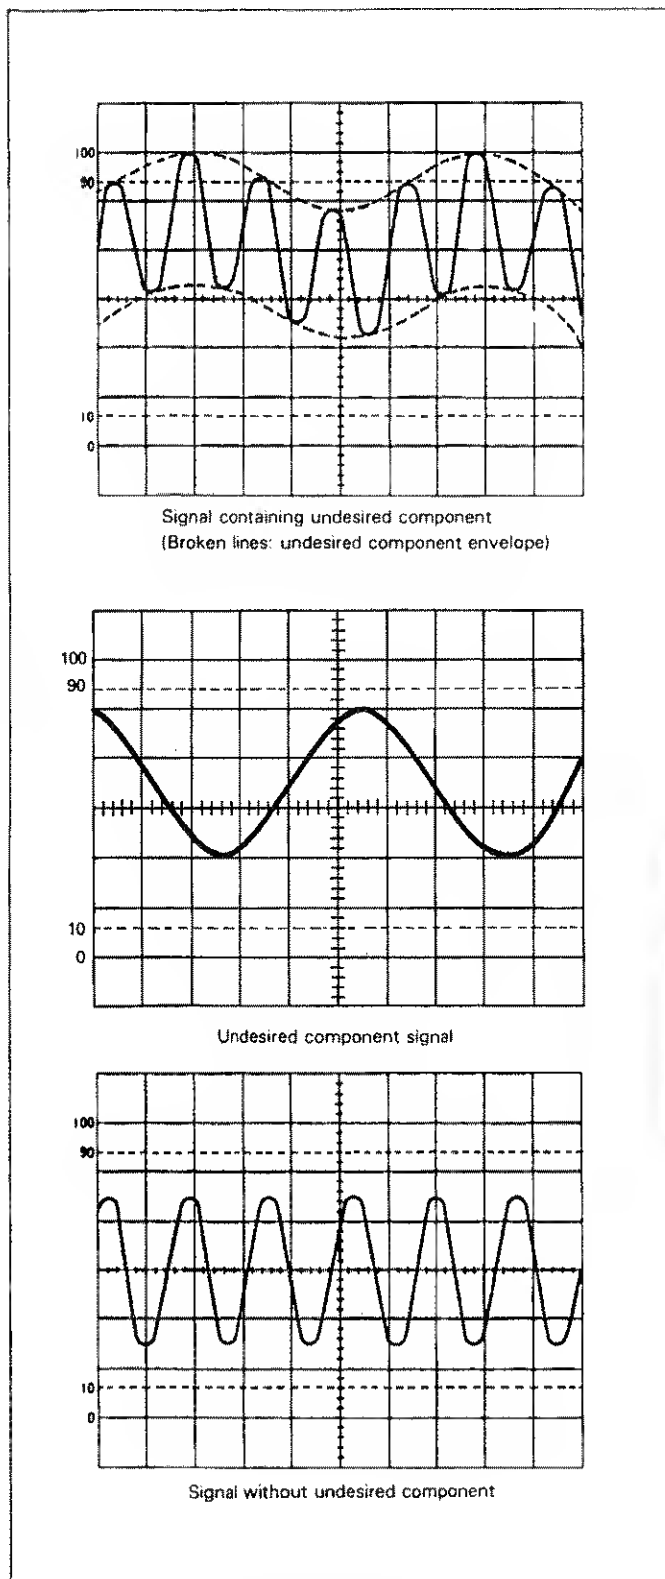

Fig. 7. Eliminating An Undesired Signal Component.
(Refer to Fig. 7)
1. Apply the signal containing an undesired component to the **CH 1 (X)** input jack and the undesired signal itself alone to the **CH 2 (Y)** input jack.
2. Select a trigger source of channel 2. Adjust the controls to display two signals, such as shown in Fig. 7. Verify that the channel 2 trace represents the unwanted signal in reverse polarity. The polarity may be reversed by pressing **CH 2 Invert**.